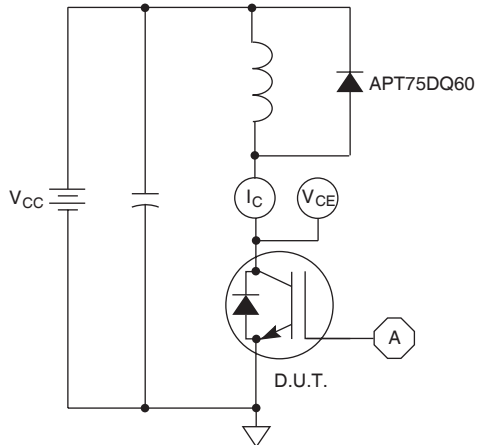

Figure 21, Inductive Switching Test Circuit
- ① Repetitive Rating: Pulse width limited by maximum junction temperature.
- ② For Combi devices, I_{ces} includes both IGBT and FRED leakages
- ③ See MIL-STD-750 Method 3471.
- ④ E_{on1} is the clamped inductive turn-on energy of the IGBT only, without the effect of a commutating diode reverse recovery current adding to the IGBT turn-on loss. Tested in inductive switching test circuit shown in figure 21, but with a Silicon Carbide diode.
- ⑤ E_{on2} is the clamped inductive turn-on energy that includes a commutating diode reverse recovery current in the IGBT turn-on switching loss. (See Figures 21, 22.)
- ⑥ E_{off} is the clamped inductive turn-off energy measured in accordance with JEDEC standard JESD24-1. (See Figures 21, 23.)
- ⑦ R_G is external gate resistance, not including $R_{G(int)}$ nor gate driver impedance. (MIC4452)
- ⑧ Continuous current limited by package lead temperature to 100A.